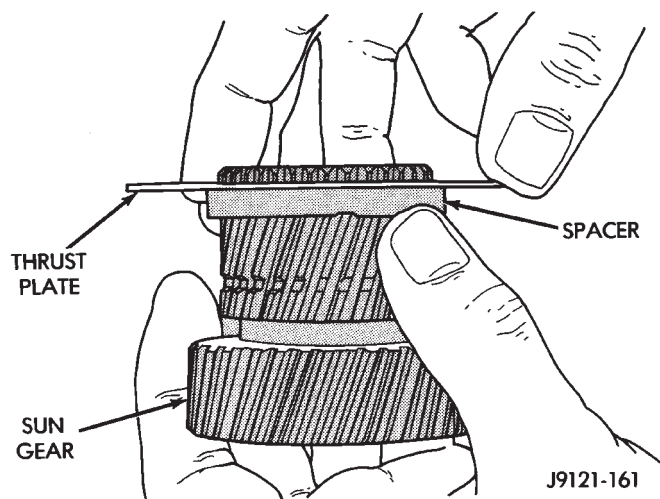

Fig. 84 Installing Driving Shell Front Thrust Plate On Sun Gear
(8) Install thrust plate on sun gear (Fig. 84). Note that driving shell thrust plates are interchangeable. Use either plate on sun gear and at front/rear of shell.